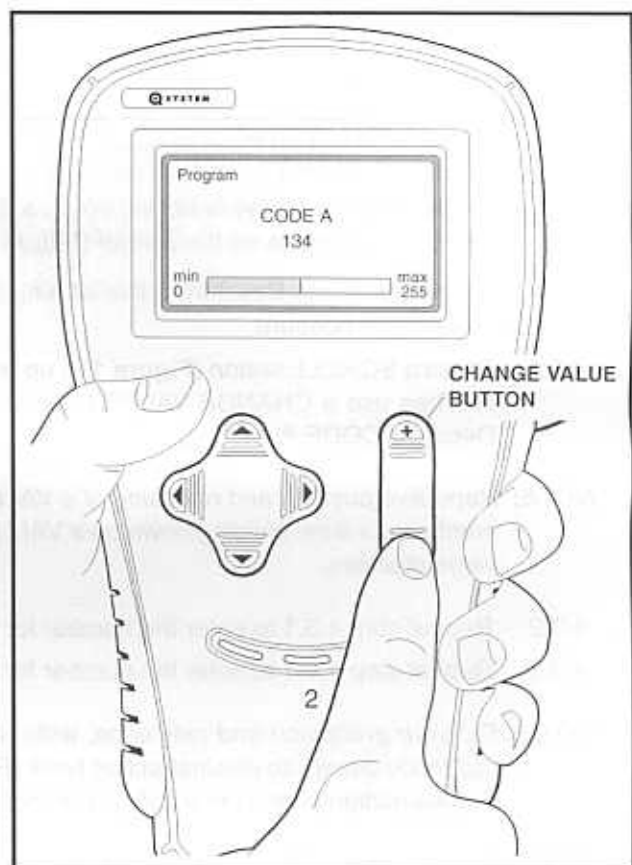

Figure 13 Change Speed Code Setting
- 5.4. Press + or – on the change value button to enter the value shown on the passcode decal for Code A (Figure 13).